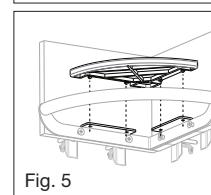

Fig. 5
9. Attach plastic shelf onto shelf bracket and ensure the plastic pegs snap into the holes on the support bracket. (Fig. 5)